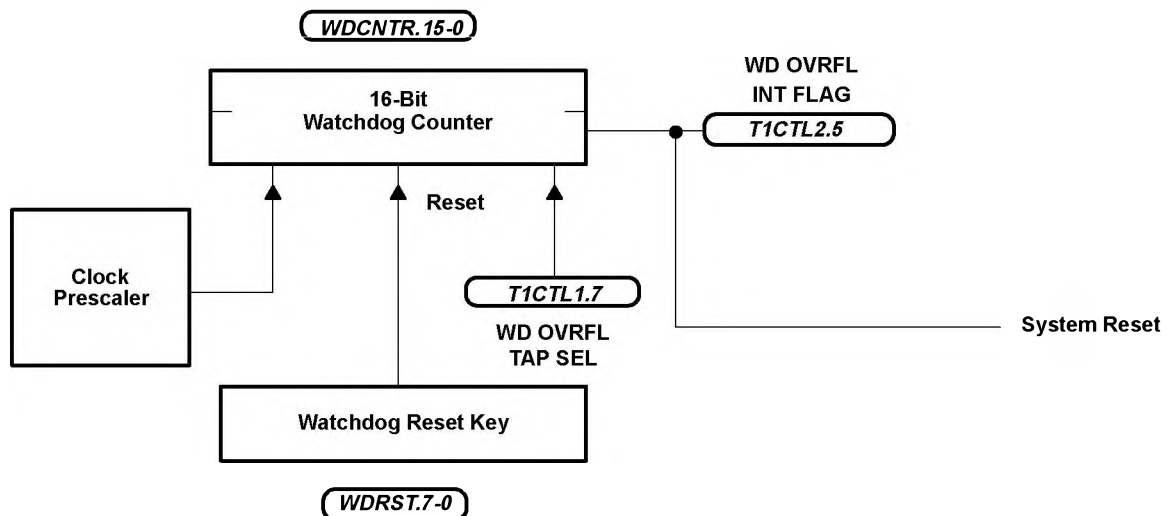

Figure 10. Hard Watchdog
- Hard watchdog configuration (see Figure 10) for 'C722 EPROM and mask-ROM devices: